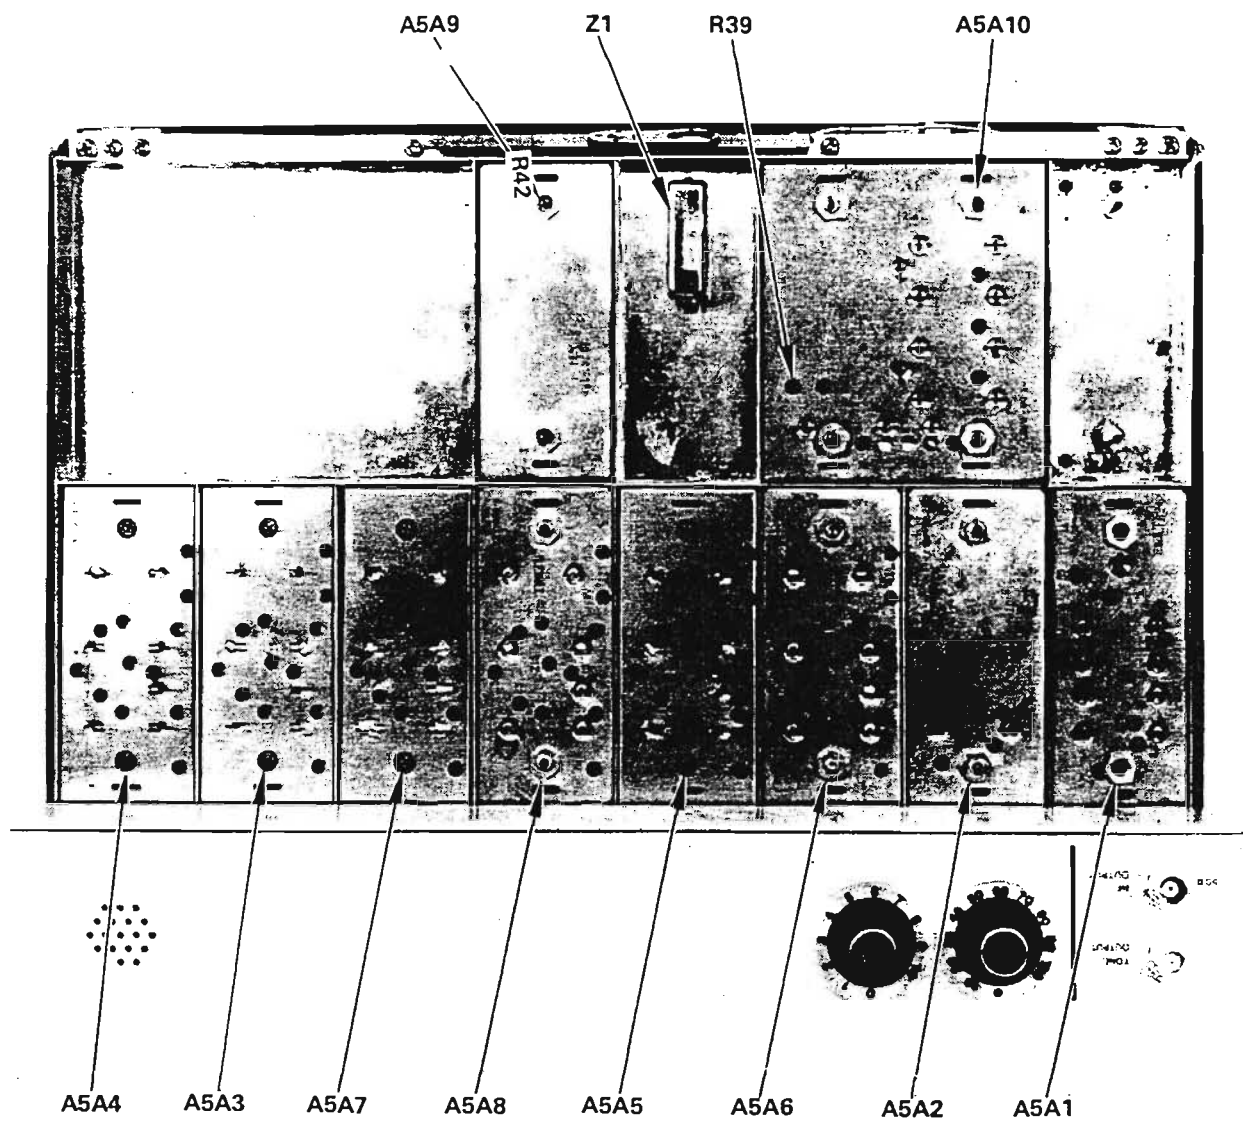

Figure 7-8. Adjustment Control Location, A5 Deck
- b. The power level should be -20 dBm  $\pm$ 1 dB. If not, adjust R39 located on PC board A5A10 (see Figure 7-8) for this level.